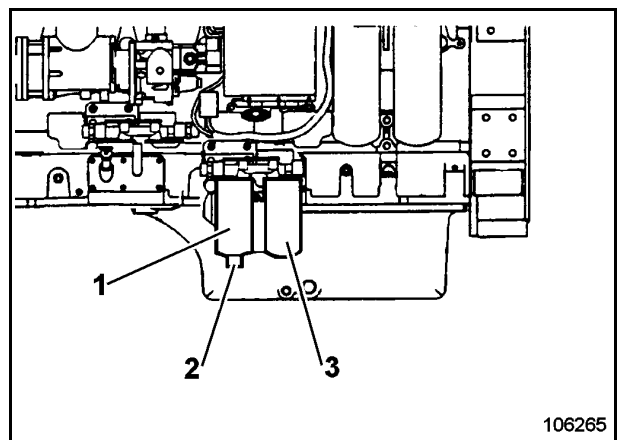

Fig. 3-45:
- Unscrew primary filter (1, Fig. 3-45:) and secondary filter (3).